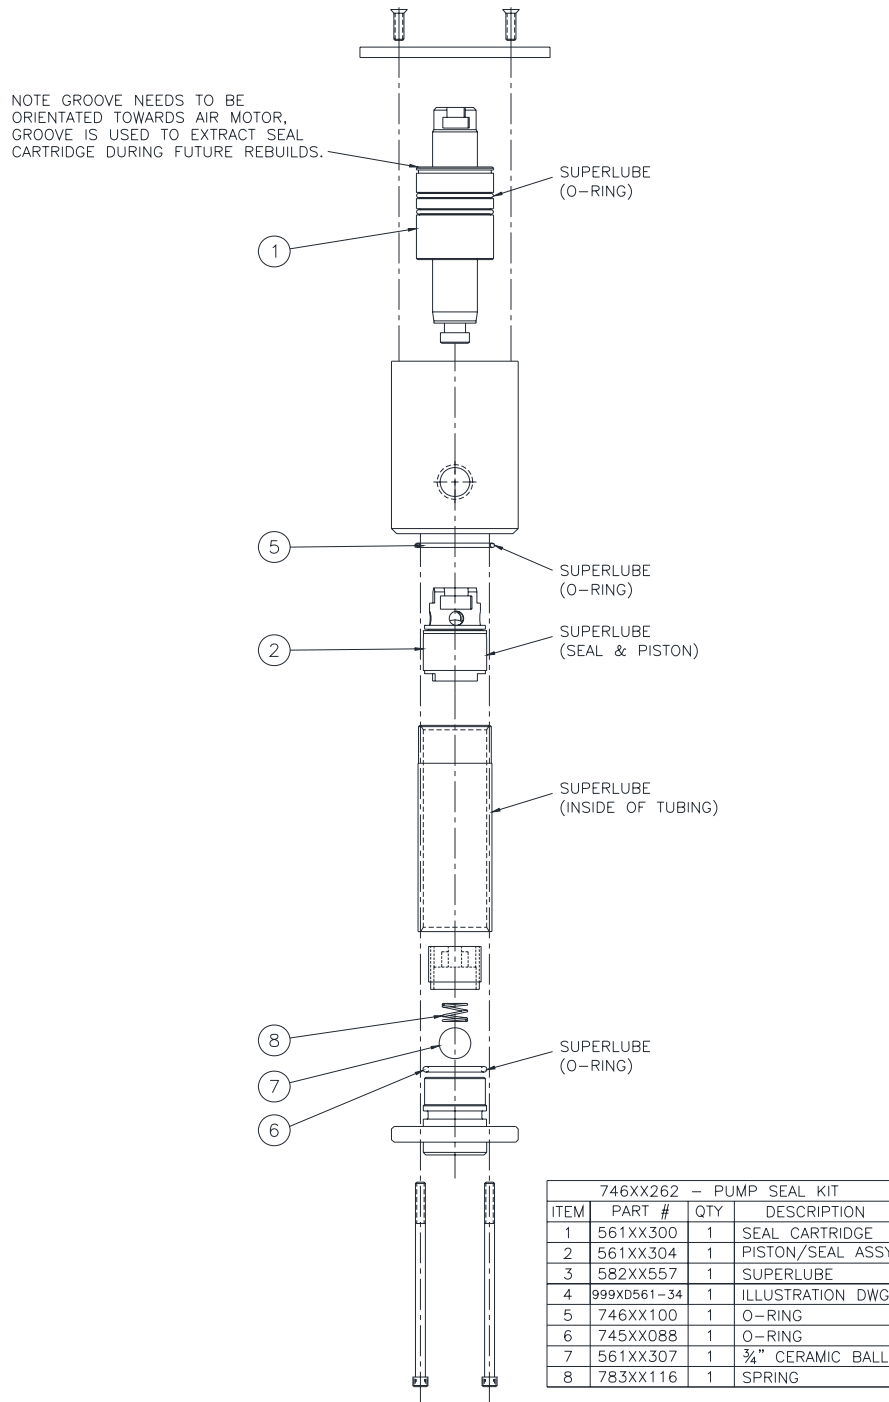

Figure 7-3. Reassembly
1. Reassemble the pump as shown in Figure 7-3.